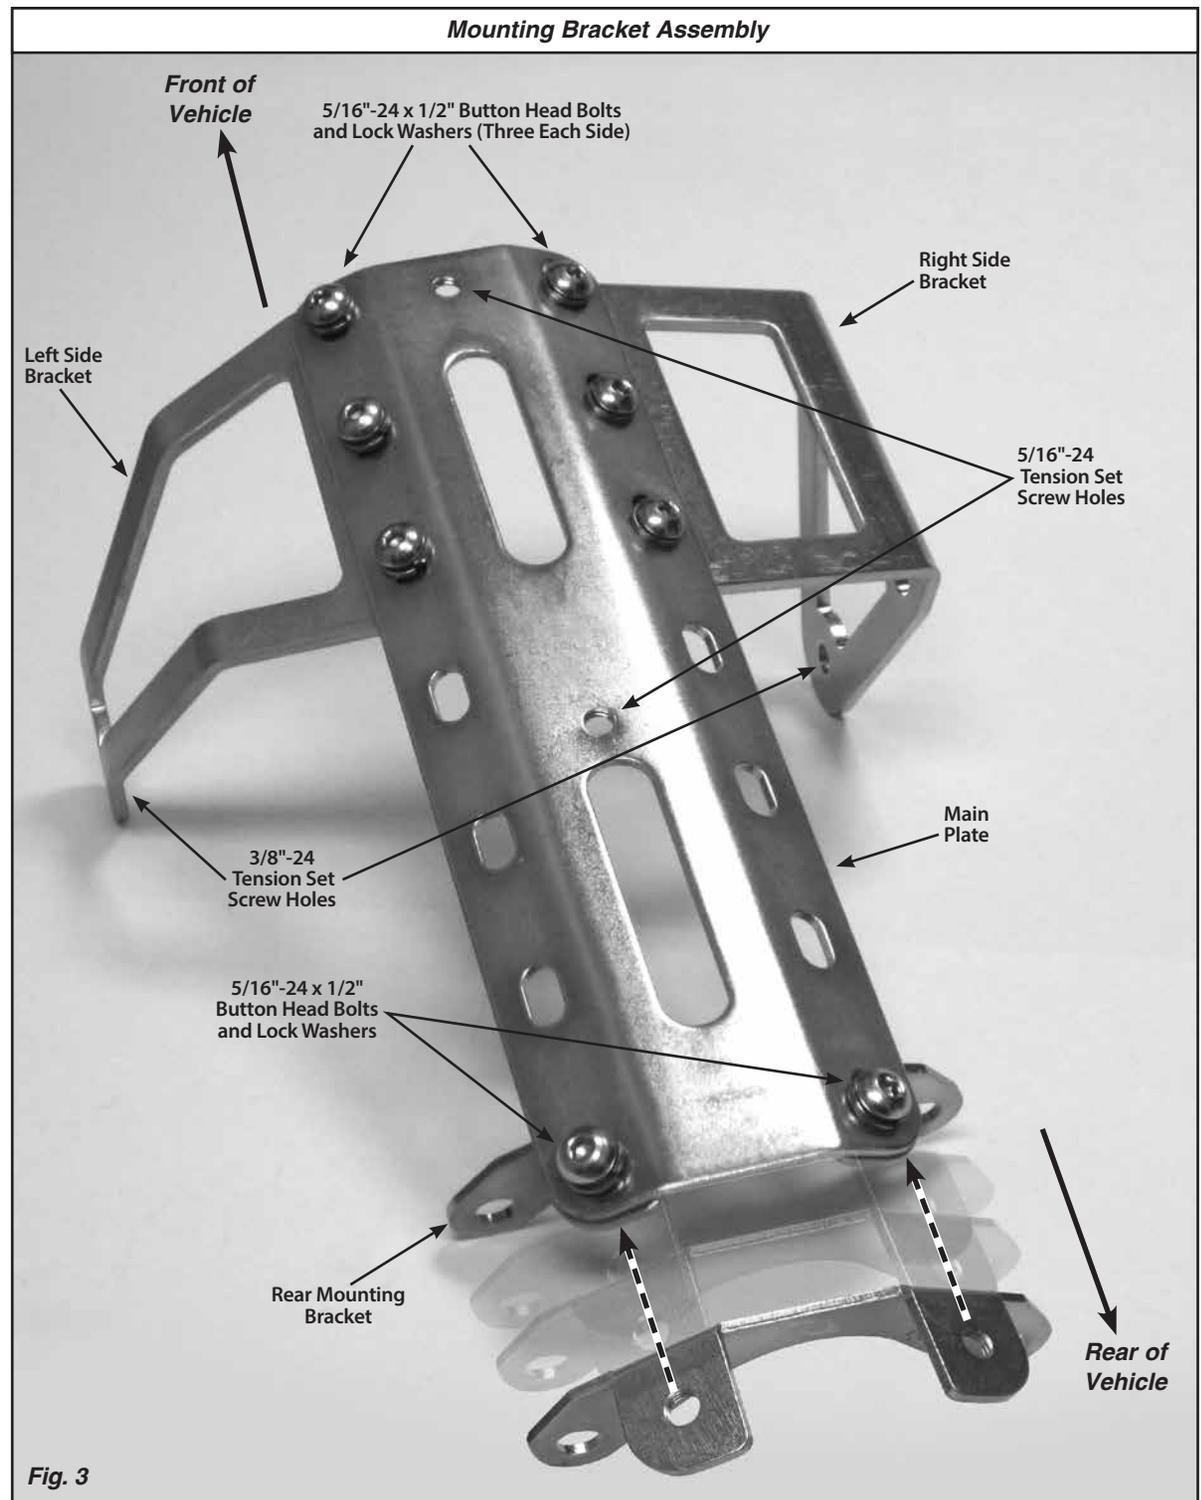

Fig. 3
The left side bracket and right side bracket bolt directly to the main plate. Attach the side brackets to the underside of the main plate as shown in **Fig. 3**, using three 5/16"-24 x 1/2" button head bolts and lock washers on each side. **DO NOT TIGHTEN AT THIS TIME.**
**Step 4:** Attach the rear mounting bracket to the underside of the main plate with the bracket ears pointing to the rear of the transmission (toward the rear axle) as shown in **Fig. 3**, using two 5/16"-24 x 1/2" button head bolts and lock washers. **DO NOT TIGHTEN AT THIS TIME.**